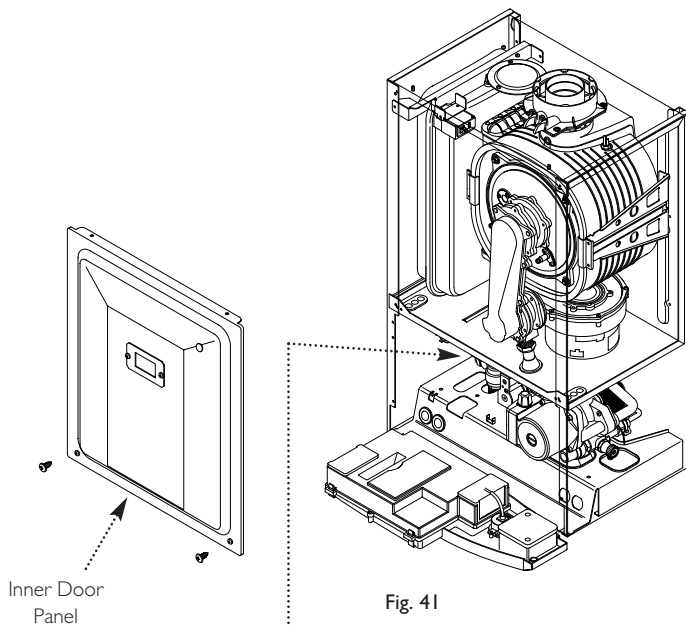

Fig. 41
6. Remove the screws securing the inner door panel. Lift the panel slightly to disengage it from the studs on top of the case (Fig. 41).